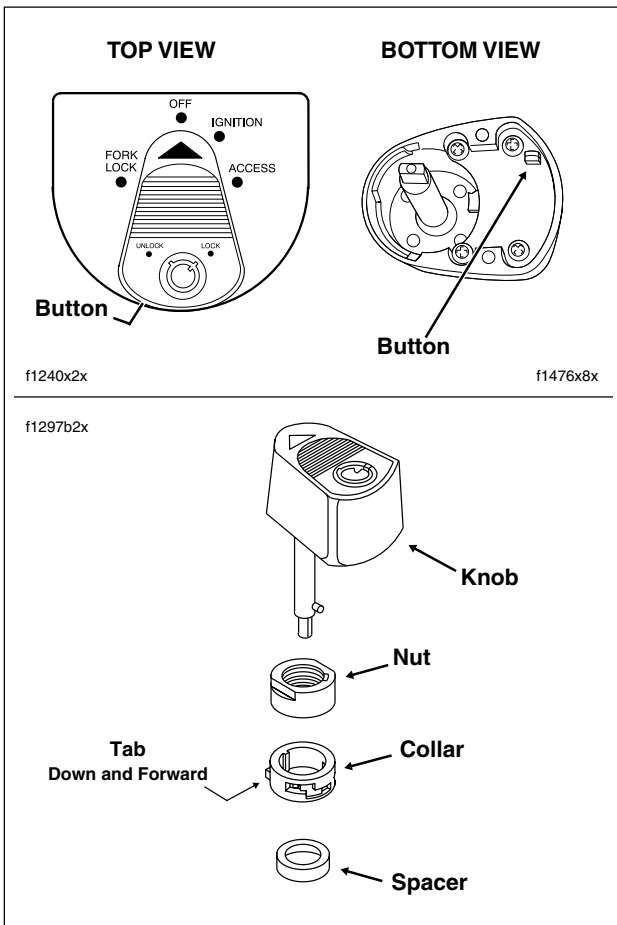

Figure 8-79. Ignition Switch Knob (Domestic)
- a. To remove the ignition switch knob, insert the Ignition Switch key and turn to the UNLOCK position. Leaving the key installed, rotate the knob to ACCESS. Depressing the release button at bottom (left side) with a small screwdriver, push key down and turn an additional 60 degrees in a counter-clockwise direction. Lift and remove knob. See upper frame of Figure 8-79.
- b. Using a 7/8 inch wrench on flats, loosen switch nut and remove from threaded post of ignition switch housing. Remove collar and spacer. See lower frame of Figure 8-79.
- b. Slide spacer over threaded post of ignition switch housing until it contacts switch position plate. Slide collar over post with the tab side down (and forward). Install nut, and using a 7/8 inch wrench on flats, tighten to 50-70 **in-lbs** (5.7-7.9 Nm). See lower frame of Figure 8-79.